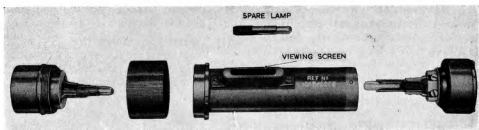

Fig. 17. Comparator unit : exploded view
- (1) Connect the mains lead 3-pin plug to a suitable supply point.
- (2) Switch on. (A red pilot lamp will light.)
- (3) Set the RECURRENCE knob to the 50 c/s position.
- (4) Loosen the two screws of the plate covering the pre-set AMPLITUDE control and set the control to the mid-way position.
- (5) Plug the comparator unit (fig. 17) into the transmitter Type T.3117 aerial socket.